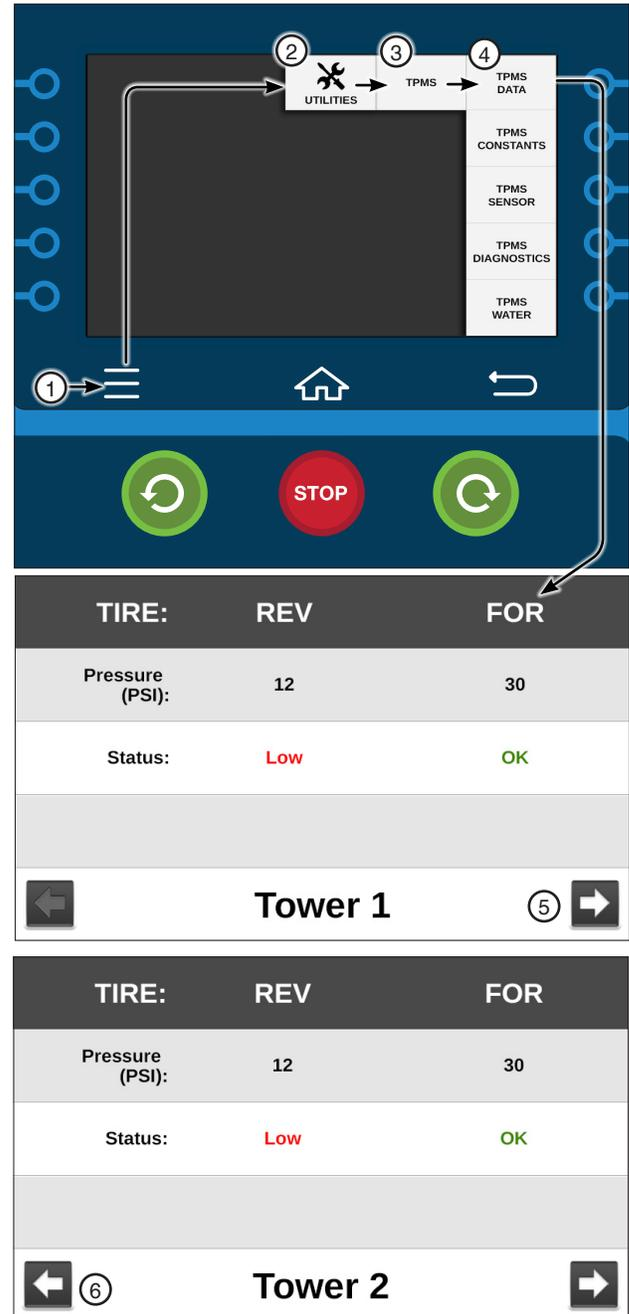

Figure 83-1 1. Menu 2. Utilities 3. TPMS 4. TPMS Data 5. Next 6. Previous
Push **Menu**, **Utilities** and **TPMS** to display the TPMS menu. Refer to Figure 83-1.
1. Push **Menu**, **Utilities**, **TPMS** and **TPMS Data** for the Tire Pressure Data screen. Refer to Figure 83-1.